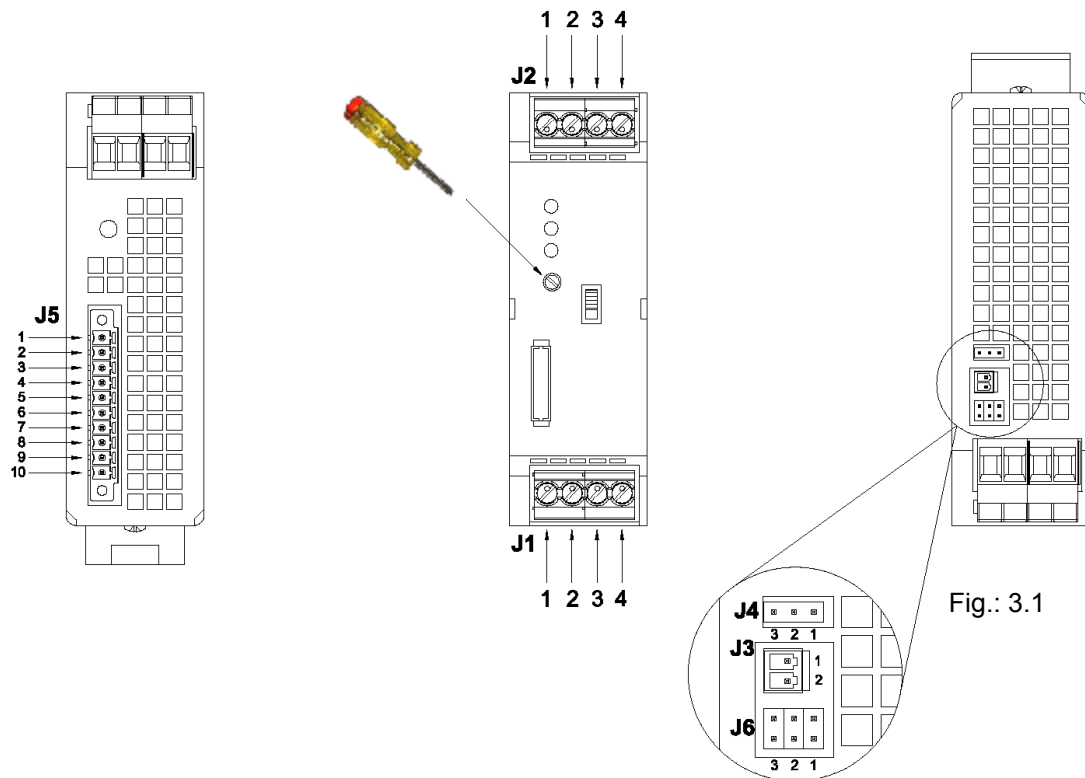

Fig.: 3.1
2.2.1 DC- Input (Fig. 3.1 → Connector J1, pin 1 & pin 2):
2.2.2 Battery In (Fig. 3.1 → Connector J1, pin 3 and pin 4):
2.2.3 Output (Fig. 3.1 → Connector J2, pin 1, pin 2, pin 3 & pin 4):
At the time of delivery, the output voltage is 24VDC. The output voltage can be set (using an insulated screwdriver) from 24 to 28VDC on the potentiometer (see Fig. 3.1).
2.2.4 Signalling (Fig. 3.1 → Connector J5, pin 1, pin 2, pin 3, pin 4, pin 5 & pin 6):
The AC-OK, Bat-OK and DC-OK outputs are for enabling monitoring of the functions of the TSP-BCM24 or TSP-BCM24A, mains and battery. The floating AC OK signal contacts (see Fig. 3.1 → Connector J5, pin 1 & pin 2) is monitoring if the mains is present. If mains is present the relay contact (30Vdc / 1A) is closed. It is detected by measuring the input at DC In.
The floating Bat OK signal contacts (see Fig. 3.1 → Connector J5, pin 3 & pin 4) is monitoring if the battery can supply enough current for a given time.
The floating DC-OK (see Fig. 3.1 → Connector J5, pin 5 & pin 6) is available to monitor if the TSP-BCM24 or TSP-BCM24A provides an output voltage. If the output voltage on the TSP-BCM24 or TSP-BCM24A is present the relay contact (30Vdc / 1A) is closed. It is detected by measuring the TSP-BCM24 output voltage or TSP-BCM24A output voltage.
The TSP-BCM24 as well as TSP-BCM24A provides an external remote on/off function by use of pin 7 and pin 8 at connector J5 (see Fig. 3.1). To switch off the power supply and TSP-BCM24 or the power supply and TSP-BCM24A a connection between Connector J5 pin 7 and Connector J5, pin 8 by use of a switch has to be made. At open connection between J5 pin 7 and J5 pin 8 the device is providing the adjusted output voltage.
The TSP-BCM24 as well as the TSP-BCM24A is designed to monitor the batteries condition. The battery is loaded with a sudden current pulse (the actual load) as long as the mains is present to monitor the batteries condition. The time between the current pulses can be set either to 15 seconds (see Fig. 3.1, J4, Pin 1 & 2) or to 10 minutes (see Fig. 3.1, J4, Pin 2 & 3)
The TSP-BCM24 device is designed to provide the remaining output current for battery charging current in maximum 15A (TSP-BCM24) or 25A (TSP-BCM24A). To assure that the TSP which is supplying the TSP-BCM24 or TSP-BCM24A is not used in overload even if a discharged battery is connected, the jumper J6 has to be set (see Fig. 3.1). The factory setting (position 1) is for the use of a TSP 360-124 (TSP-BCM24) or TSP 600-124 (TSP-BCM24A). The jumper J6 has to be set to position 2 if a TSP 180-124 (TSP-BCM24) or TSP 360-124 (TSP-BCM24A) is used and to position 3 if a TSP 090-124 (TSP-BCM24) or TSP 180-124 (TSP-BCM24A) is used.